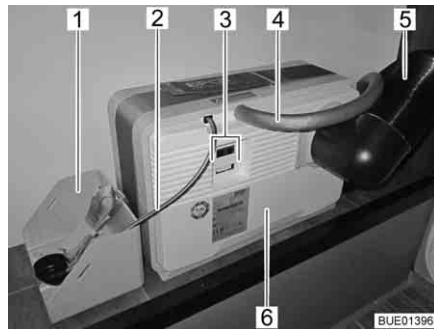
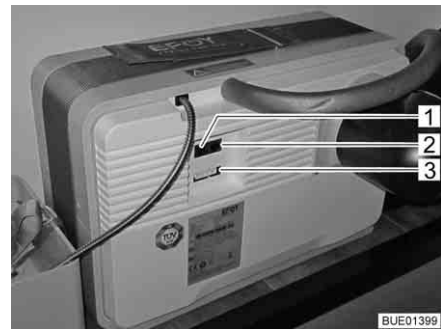
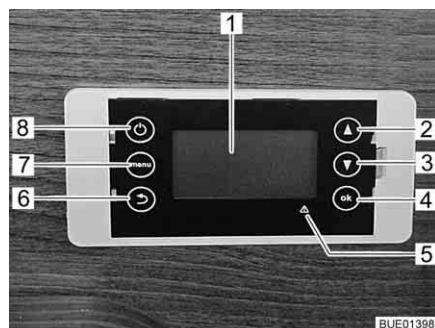

Fig. 135 Fuel cell with tank cartridge
Fig. 136 Connector panel of the fuel cell
Fig. 137 Operating unit fuel cell
The fuel cell consists of several components that are installed in the rear storage space (Fig. 135) and of an operating unit (Fig. 137) in the living area.
The following components are on the fuel cell (Fig. 135,6):
- The connector for the air discharge hose (Fig. 135,4) or the filling hole for the service fluid
- the off-heat tube (Fig. 135,5)
- electrical connections (Fig. 135,3) with data interface (Fig. 136,2), device connection (Fig. 136,3) and connection for the operating panel (Fig. 136,1)
A tank cartridge belongs to the fuel cell (Fig. 135,6). It is connected to the fuel cell via a tank connection (Fig. 135,2).
The tank cartridge is firmly fixed in the tank cartridge holder (Fig. 135,1).
The fuel cell automatically charges the living area batteries if their voltage falls below 12,3 V and if the fuel cell is switched on using the On/Off key (Fig. 137,8).
The display (Fig. 137,1) of the operating unit has four lines.
The main menu can be accessed with the menu key (Fig. 137,7):
In the event of faults, the red fault indicator (Fig. 137,5) lights up and a message appears on the display. The message consists of an error code and information on how to rectify the fault.